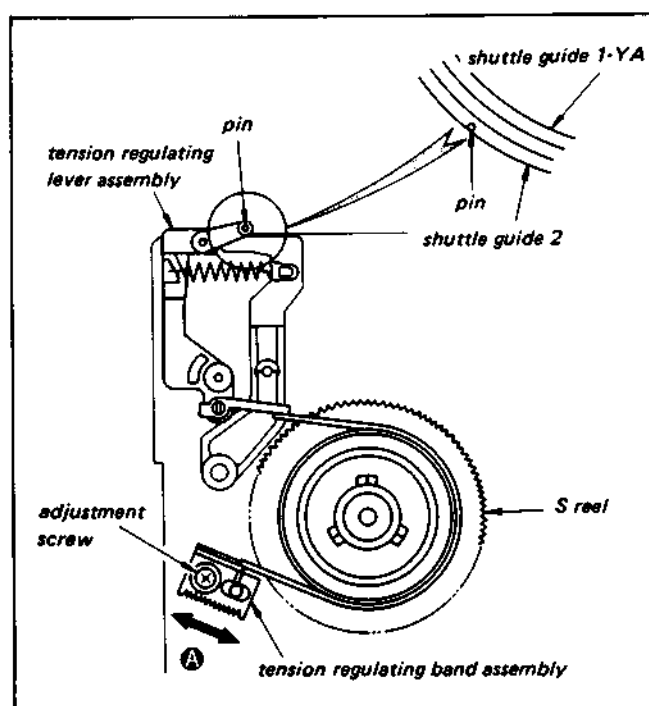

Fig. 3-34 Adjustment of the position of the tension regulating lever
- 2) Loosen the adjustment spring until the tape guide pin of the tension regulating lever assembly is positioned to the outside of the outer circumference of shuttle guide 2, as shown in Fig 3-34. Then adjust by moving the tension regulating band assembly in the direction of arrow A.